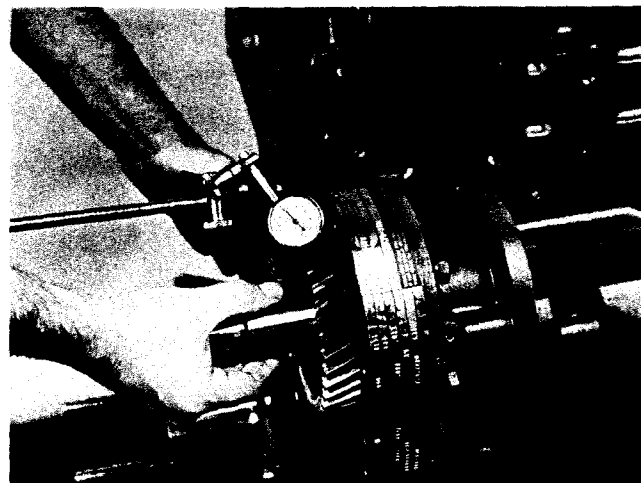

Fig. 14-29, (N114263). Checking accessory drive gear backlash
1. Attach a dial indicator gauge to the block with plunger on accessory drive gear tooth. Fig. 14-29. Rotate gear as far as it will move to take up backlash, zero indicator.